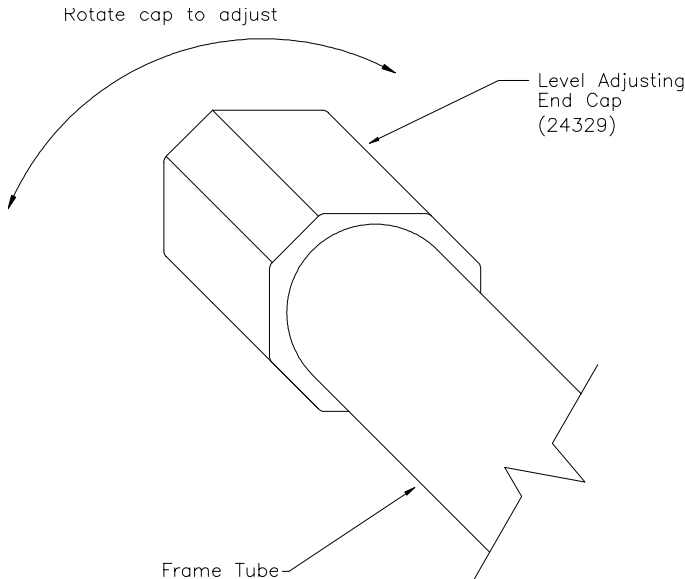

Figure 3: End Caps
2. Make sure the machine is level before you use it for the first time. The four rubber end caps (see Figure 3) are designed to compensate for slightly uneven floors. Each face of the caps is a different thickness. Twist the caps to stabilize the machine.